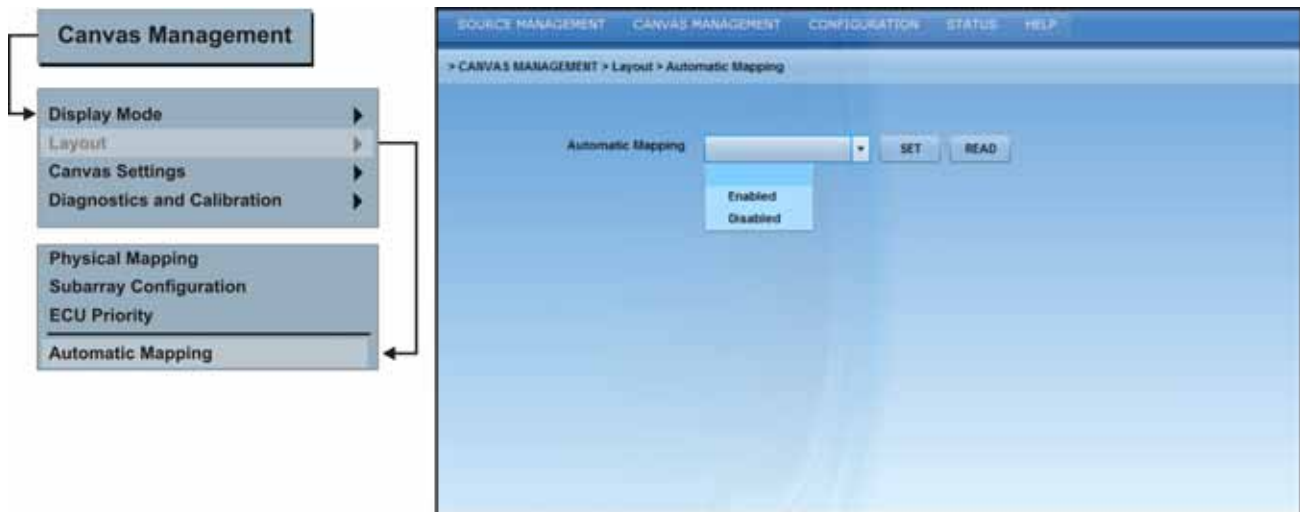

Figure 3-27 Automatic Mapping
1. From the **Canvas Management** drop-down menu select **Layout** and **Automatic Mapping (Figure 3-27)**.
2. Once the screen shown in **Figure 3-27** appears, select **Enabled** from the **Automatic Mapping** drop-down menu and click **Set**. Each tile within the array crops the active input source, selects its own sub-image portion and scales the sub-image to display on the full screen (array).
2. From the System Information screen, select either **External Control Unit (Figure 3-36)** or **Tiles (Figure 3-27)** to view the current firmware version installed on the selected hardware. If necessary, click **Read All** to populate the screen information. You must have 1 ECU or one tile selected in order to get a reading.